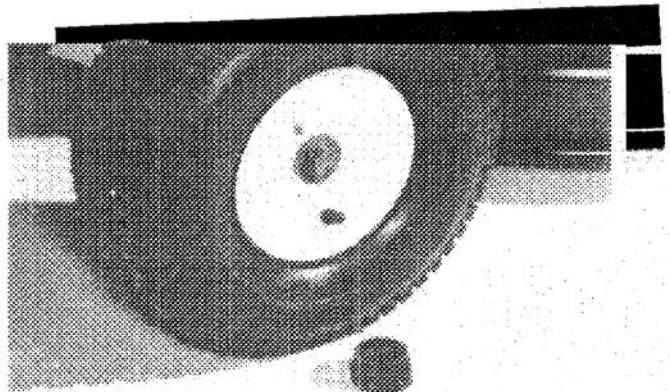

Figure 43
4. Remove the cotter pin and flat washer (Fig. 43) and remove the wheel from the axle.